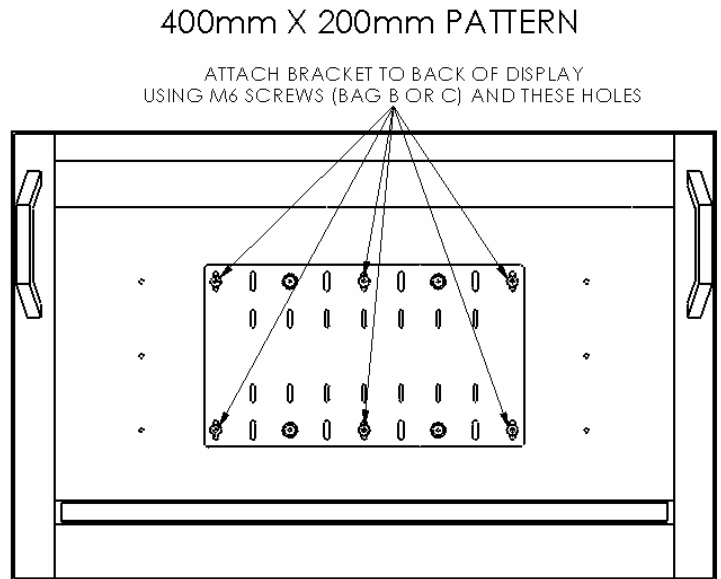

Figure 9. Display with 400mm x 200mm Hole Pattern
2. Attach the MSP-DELMBSV (10) using the hole-pattern on the back of your display as shown in Figure 9.